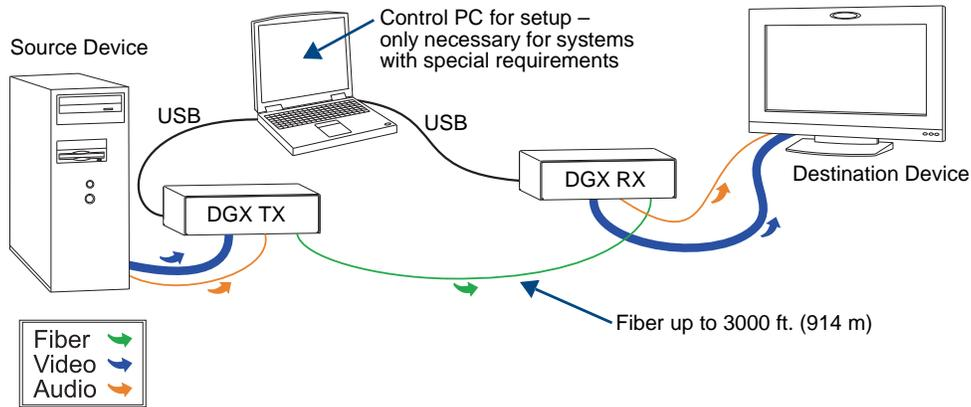

FIG. 10 DGX TX and DGX RX modules in point-to-point solution
- FIG. 10 shows a DGX TX and a DGX RX in an end-to-end solution.